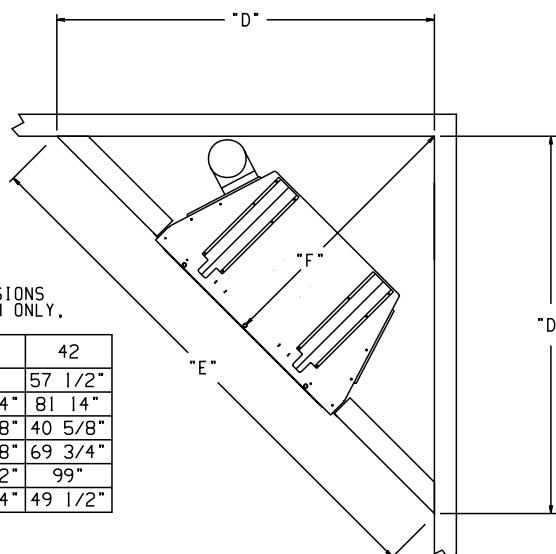

**Figure 5 Caulk and Install Duct Termination**
11. Caulk exterior of structure that will be contacted by outside air tube assembly (See Figure 5).
12. Insert outside air tube assembly into 6" diameter hole in structure. Align clearance holes on rain cap with clearance holes on outside air tube assembly. Attach rain cap and outside air tube assembly to structure with (6) 1 1/2" provided screws.